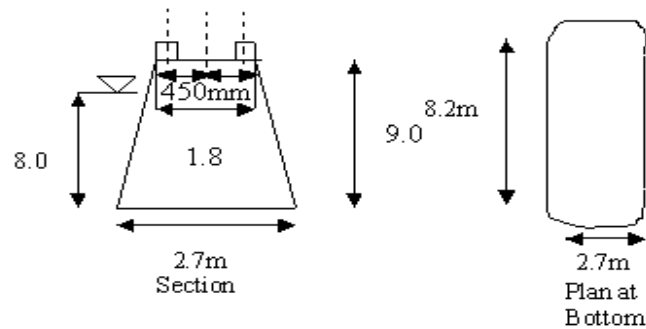

Figure 3:
7. Check the adequacy of the dimension for pier with given data Shown in Figure 3